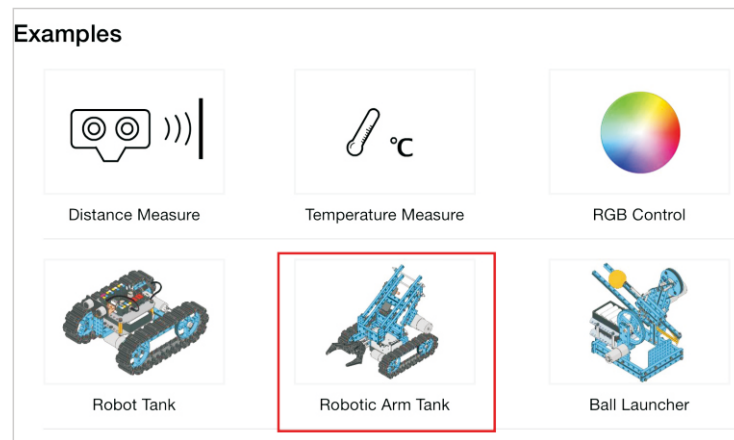

Figure 2
- 4、Run Makeblock app, select your robot from Examples.(Figure 2)